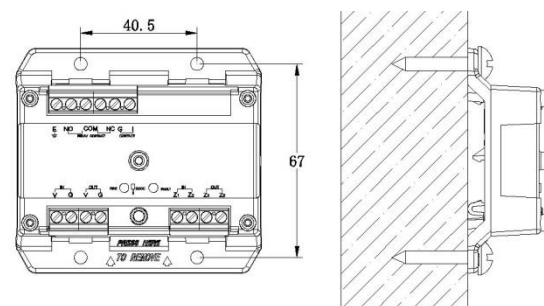

Fig. 3
- 3) The module can also be wall mounted by 4 mounting screws as shown in Fig. 3. Mounting space is 67×40.5mm.